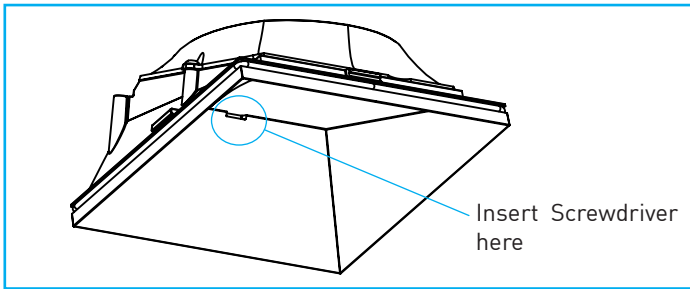

Fig.22
A. Remove baffle. Dry location baffles are removed by lifting lens and pulling down on the top of baffle. Wet location baffles or those with sealed lenses are removed by pulling down on the lens with a suction cup. Wallwash baffles require inserting small flat head screwdriver and carefully prying down as shown in "Fig.22".
- Grasp baffle using soft gloves or with clean soft cloth and remove by pulling down or inserting small flat head screwdriver to wallwash baffles and carefully prying down *"Fig.22"*.